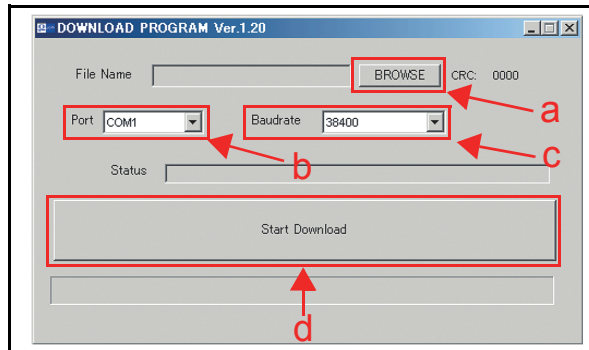

Figure 6-5 Taiko PC Download Program Screen
3. Open the Folder and Double Mouse-click on "Ver.1.20.exe" of the expanded PUB-7/11 PC Download Program. The **Download Program Ver.1.20** Screen shown in Figure 6-5 will appear.
4. Mouse-click on the BROWSE Screen Button (See Figure 6-5 a) and select the desired Software Program required for installation (i.e., example = PII.10801.usa2).
5. Select an available PC COM Port Number from the "Port" pull-down Menu (See Figure 6-5 b).
6. Confirm that a Baud Rate of 38400 is selected; if not, set the Baud Rate to 38400 from the "Baud-rate" pull-down Menu (See Figure 6-5 c).
7. Mouse-click on the large [Start Download] Screen Button (See Figure 6-5 d) to begin downloading the selected Software File.